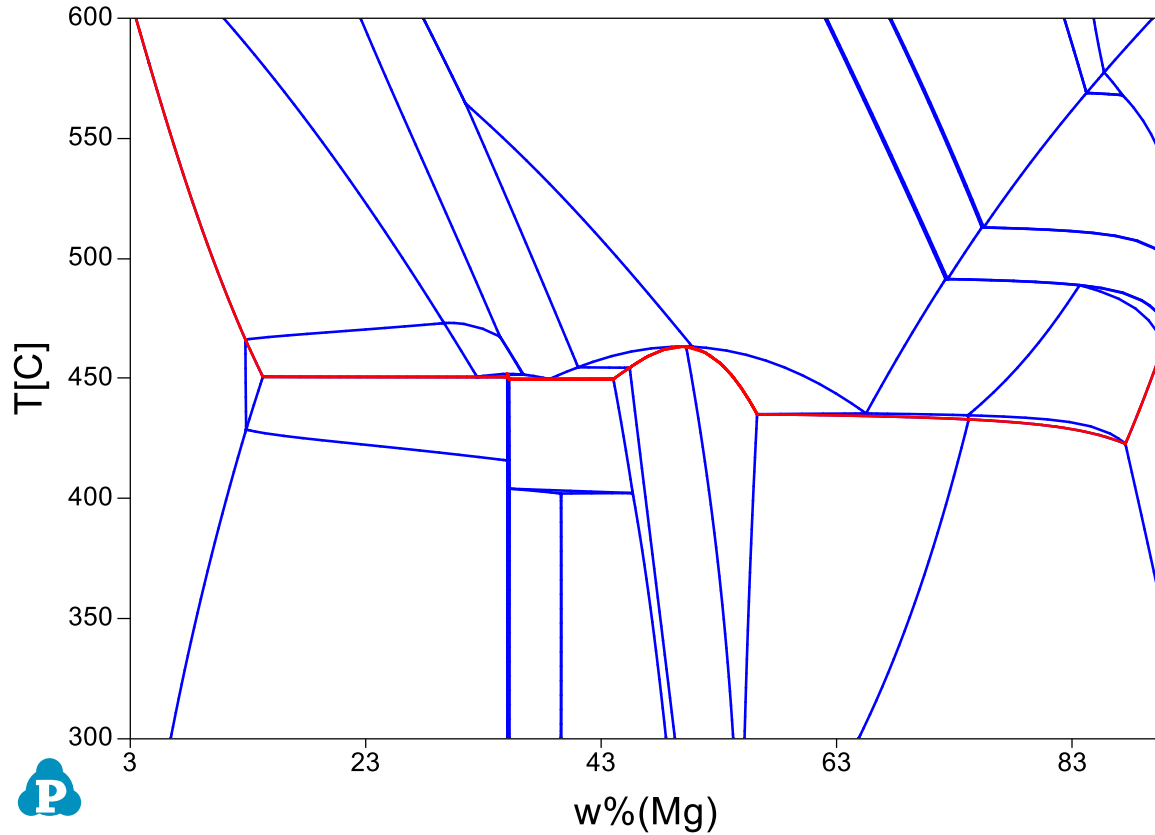

Figure 1.25.4 Default calculated phase diagram from AA5454 to AZ91.
- The default calculated phase diagram is shown as Figure 1.25.4. The left edge corresponds to the composition of AA5454 (Al-3Mg-1Mn-0.3Fe-0.01Zn(wt.%)), and the right edge is the composition of AZ91 (Mg-8.2Al-1Zn-0.2Mn-0.01Fe (wt.%)). The highlighted red line is the ZPF line of the liquid phase, which represents the melting temperature at each composition. In other words, liquid phase will appear above the red line.